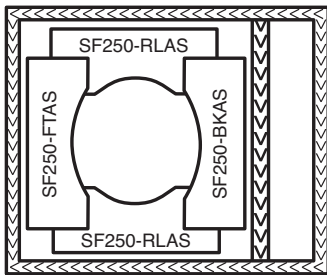

Fig. 2
4. Assemble side ash slides (2 pcs part #SF250-RLAS) to inside control side mounting plates (part #'s SF250-ASMP & SF250-CSMP) using 4-1/4 x 3/4 (F) Black hex bolts and 4-1/4" (J) Zinc nuts. Assemble back ash slide (part # SF250-BKAS) to the back baffle of stoker base. Using 2-1/4 x 3/4 (F) Black hex bolts and 2- 1/4" (J) Zinc nuts. Assemble front ash slide (part #SF250-FTAS) to front panel of stoker base. Using 2- 1/4 x 3/4 (F) Black hex bolt and 2- 1/4" (J) Zinc nuts. See Fig. 2.